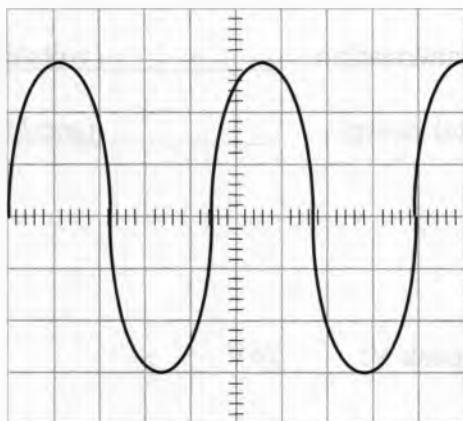

Figure 15
13. Figures 15 and 16 show the same signal displayed on two CROs. Which CRO is better set-up to measure the signal's peak to peak voltage? Explain why.